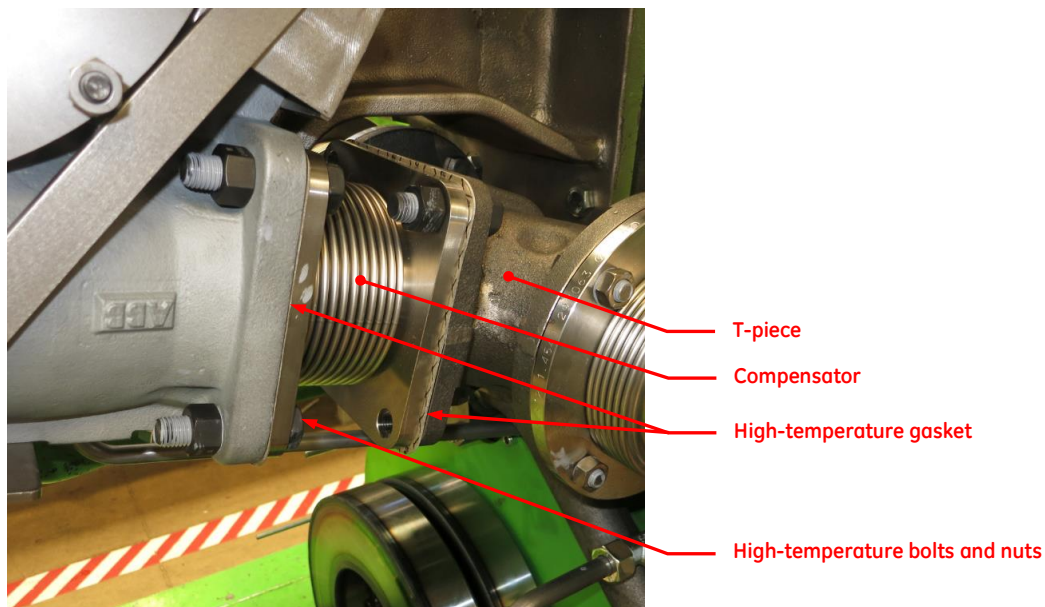

Figure 15: Fitting the compensator between the turbocharger and T-piece
- ✓ Preassemble the compensator as shown in Figure 15
Use high-temperature gaskets between the T-piece and compensator, and between the compensator and turbocharger housing, see Figure 15.
See Figure 15 for the use of temperature-resistant bolts and nuts. Coat the bolt threads with a high-performance solid lubricant paste to prevent corrosion, wear and seizing at high temperatures!